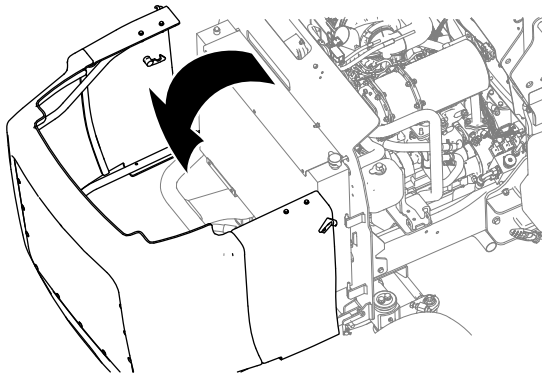

Figure 64
5. Unlatch and open the hood (Figure 64).